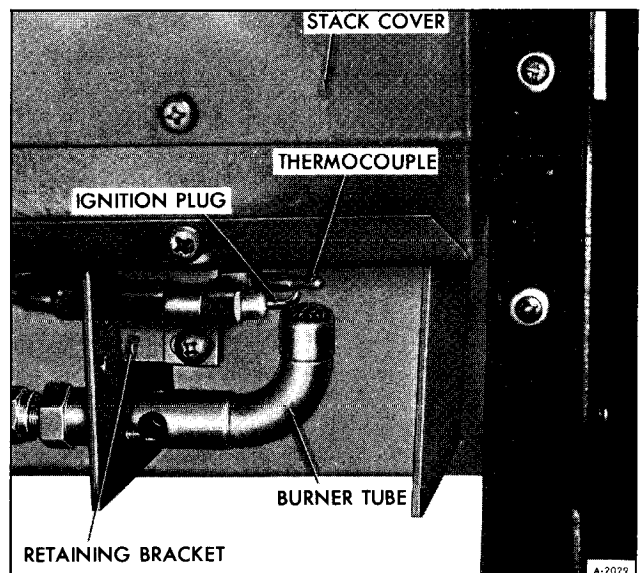

Figure 3—Burner Cover Removed
2. Remove two screws on retaining bracket and remove ignition plug from burner housing (figure 3).